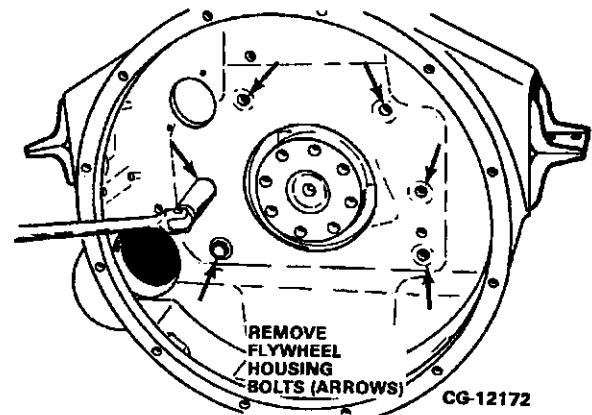

Figure 7.37. Remove Flywheel Housing and Gasket
- a. Remove the six bolts and washers which support the housing. Refer to Figure 7.37.